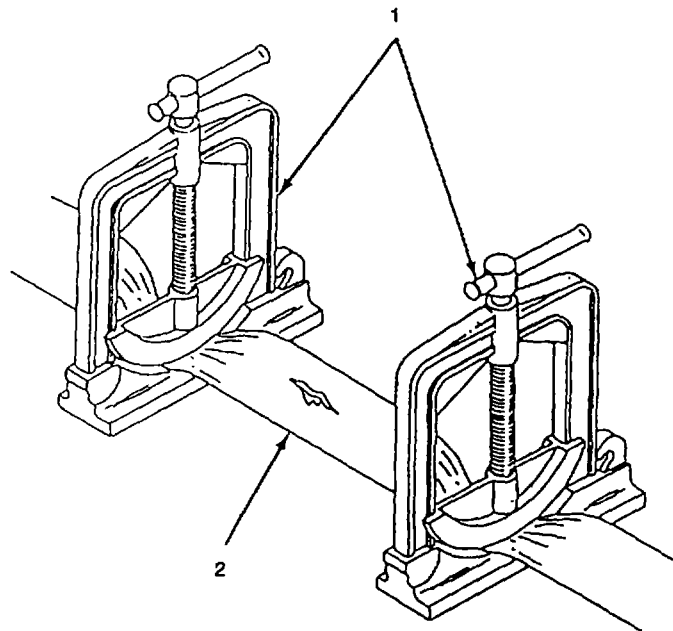

Figure 3-1. Installing Hose Clamps
(1) Perform mid-section hose repair as follows:
- (a) Install hose clamps (1, Figure 3-1) 3 ft (0.9 m) upline and downline from hose section (2) to be removed.
- (b) Tighten hose clamps (1) until hose (2) is pinched closed.